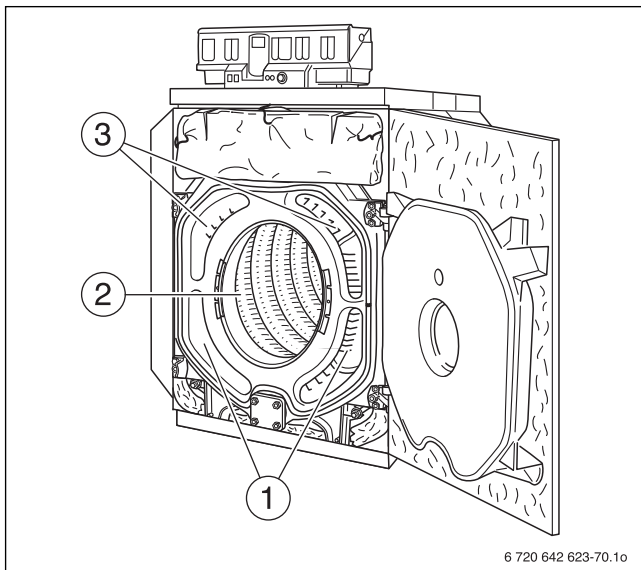

Fig. 74 Heat exchanger flue gas passages, cleaning
- ▶ Clean the flue gas passages, starting at the front and working toward the back with cleaning brushes 1 and 2 (→ Fig. 74, [1 and 3]).
- ▶ Clean the rest of the combustion chamber (→ Fig. 74, [2]) with cleaning brush 2.